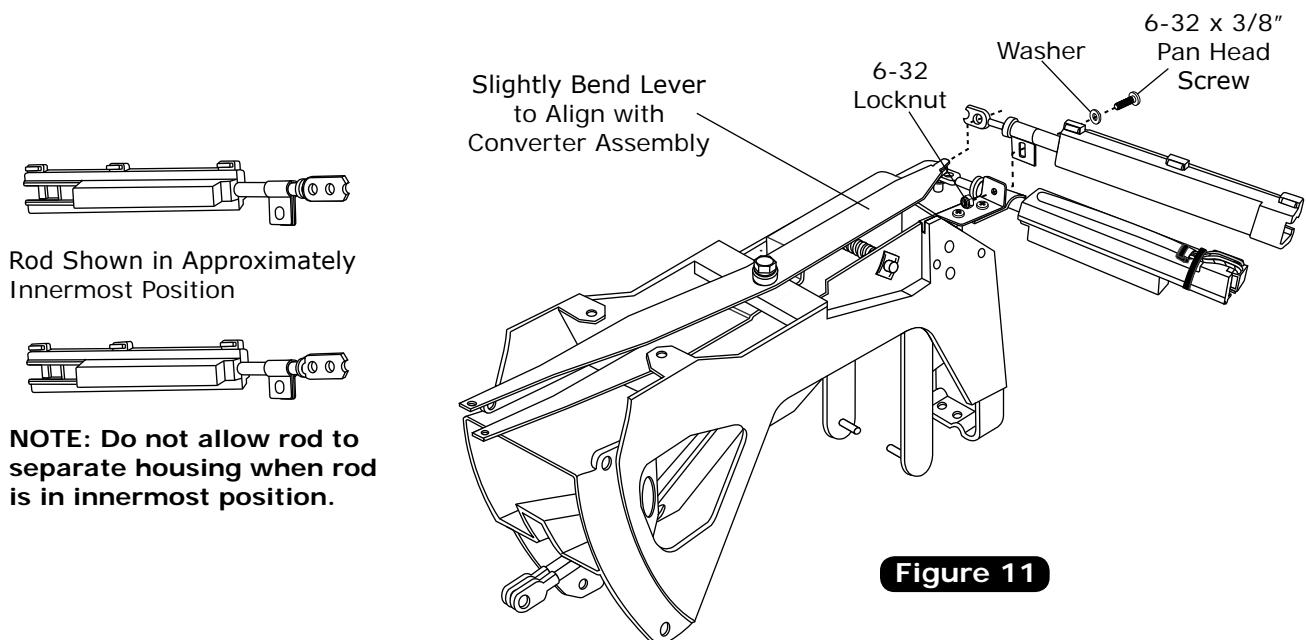

Figure 11
1. Install the cable converter assembly onto the blower speed lever by attaching the cable converter lever push rod to the mounting tab on the lever (See Figure 11, below).
2. Secure the cable converter assembly to the control panel blower switch adapter bracket using a 6-32 x 3/8" pan head screw, a washer, and a 6-32 locknut as shown in Figure 11, below.